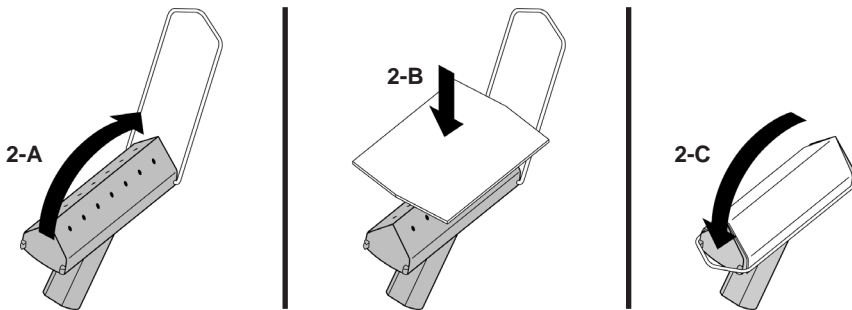

FIGURE 2
1. Swing Corner Tool latch arm to open position (FIGURE 2-A).
2. Press desired pad against Corner Tool. The pad should wrap around angled edge, covering all steam holes (FIGURE 2-B).
3. While continuing to hold pad against Corner Tool, swing latch arm over pad to locked position. This will secure the pad in place (FIGURE 2-C).